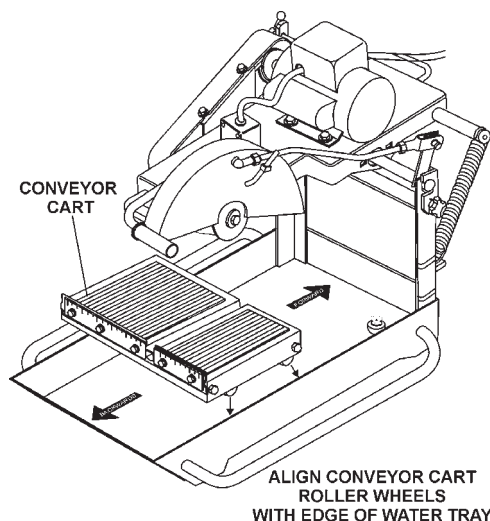

Figure 7. Conveyor Cart Placement
1. Place the conveyor cart across the water tray as shown in Figure 7. Align the wheels of the cart with the outer edge of the water tray. Push the cart back and forth, it should move freely in both directions.